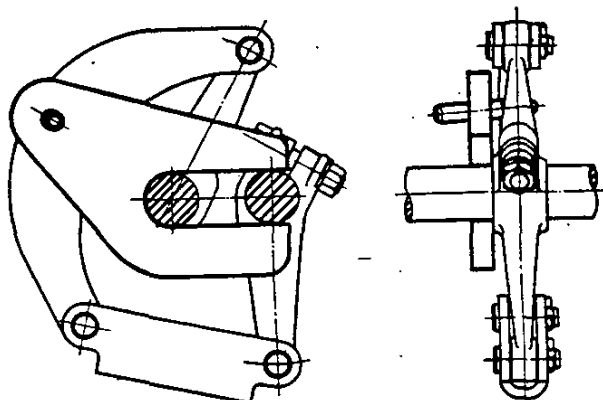

Figure 3
1. Disconnect brake pedal pull rod at clevis end (A).
2. Disconnect both front service brake pull rods at clevis end (B).
3. Disconnect both rear service brake pull rods at clevis end (C).
4. Fit gauge on brake cross shaft as shown in Figs. 3 and 5. (One gauge has been sent to every direct and associate dealer.)
5. Adjust front brake pull rods at (B) so that brake operating lever is against stop (D) and reconnect.
6. Adjust rear brake pull rods at (C) so that rear brake operating lever is against stop (E). (This stop is formed by emergency brake shaft.)
7. Remove gauge and adjust pedal pull rod at (A) until pedal is against stop at (F).